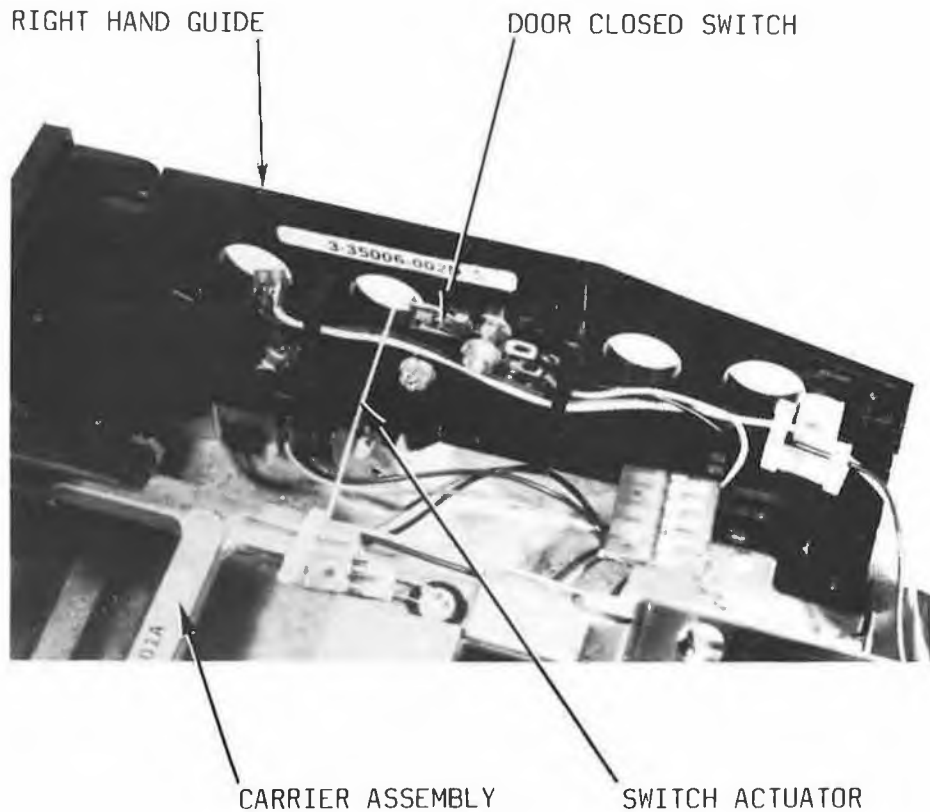

Figure 6-1: Door Closed Switch
6.2 DOOR CLOSED SWITCH (Figure 6-1)